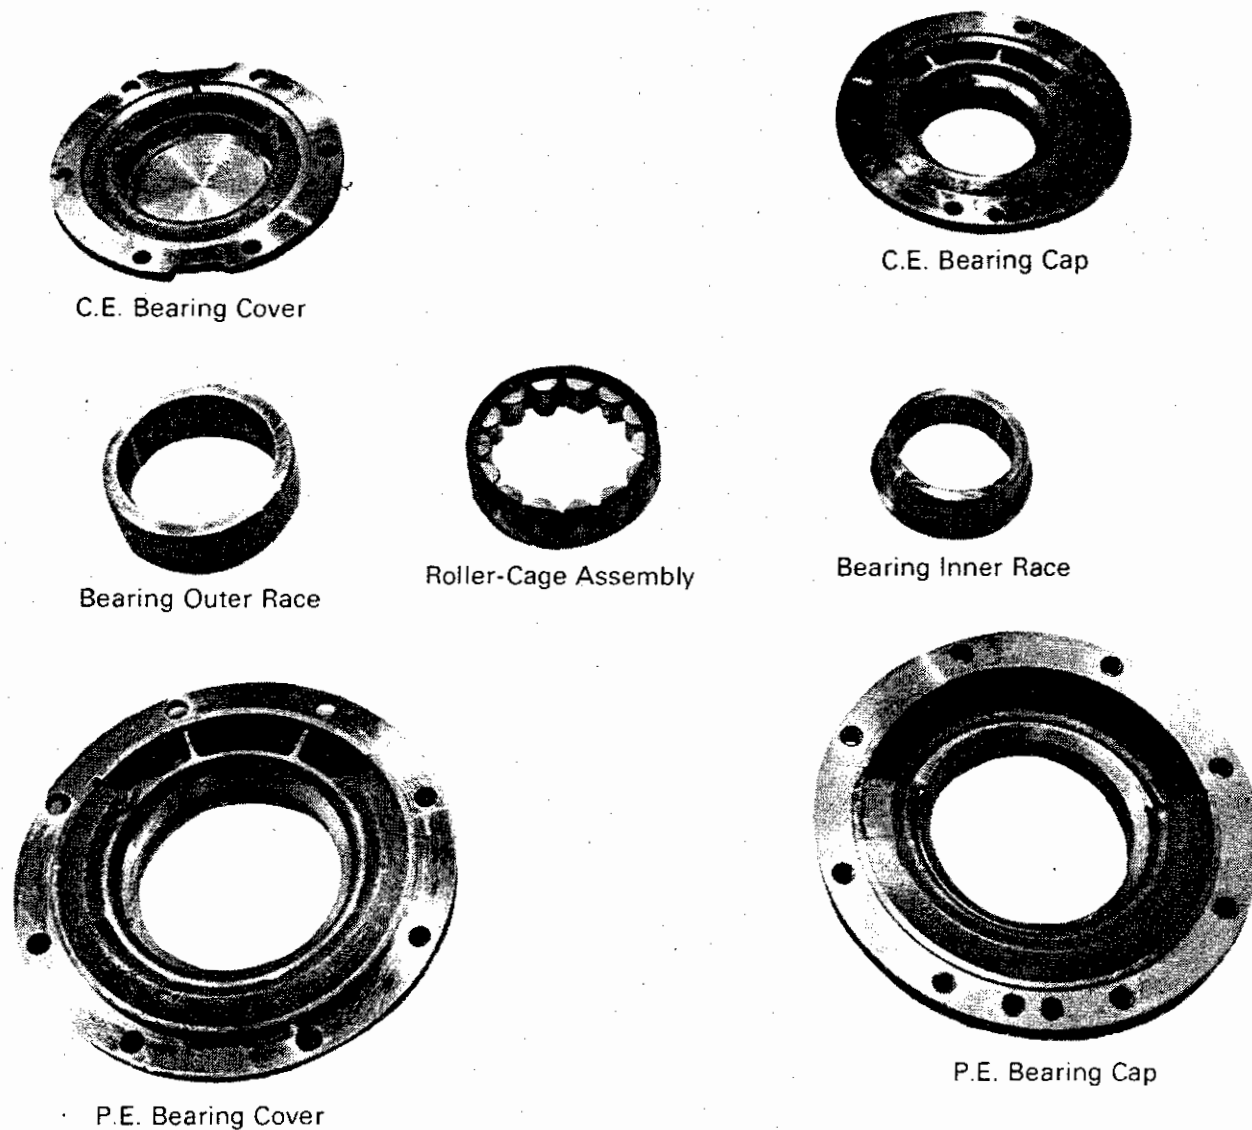
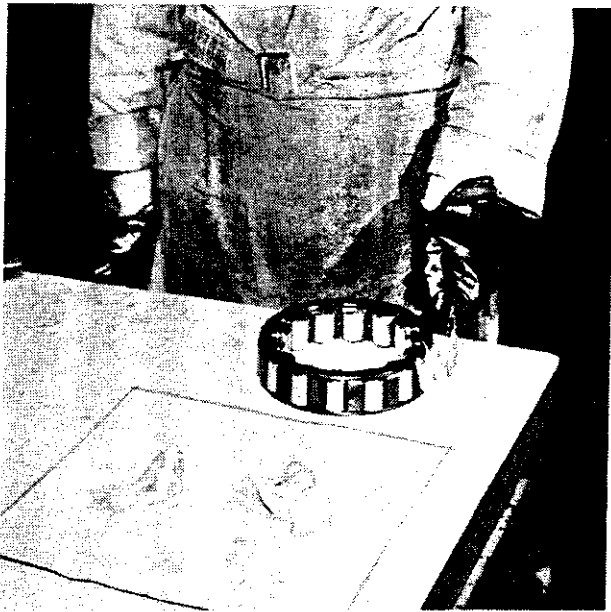

Fig. 9 - Proper Application of Grease
Fig. 10 - Coating O.D. of Roller and Cage Assembly 7749
9. When grease contour is finished, the small amount of grease retained on the grease mask blade should be removed and applied to the ends of the grease arc. Fig. 9 illustrates properly packed pinion end and commutator end bearing caps and covers.
1. Remove roller-cage assembly, Fig. 9, from bearing outer race. Refer to Service Data for proper grease quantity specified for the bearing. Using a spatula or putty knife, work grease into outside diameter of the roller-cage assembly as shown in Fig. 10. Coat the rollers and spread grease into the bearing cage pockets.